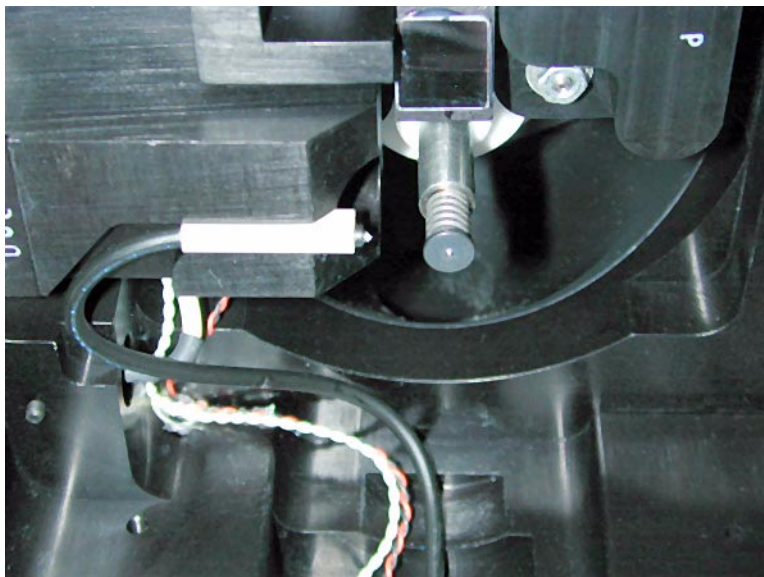

Figure 60 Install the Laser Alignment tool carefully
- 6 Carefully insert the Laser Alignment fixture on the Capillary Extension. Make sure the spring loaded Alignment fixture can move freely on the Capillary Extension by pushing it gently all the way in against the tip of the Capillary Extension. See Figure 60.